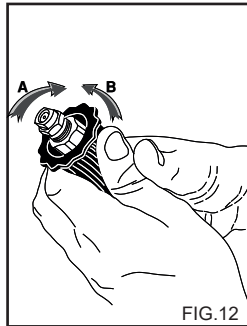

FIG.12
USING THE ADJUSTABLE HEAD (Fig. 12)
2) Start the cleaner, turn on the detergent tap (if present), switch on the detergent suction control on the lance (fig. 12) and spray the dirty surface with the diluted product, working from bottom to top. Let it react for a few minutes.